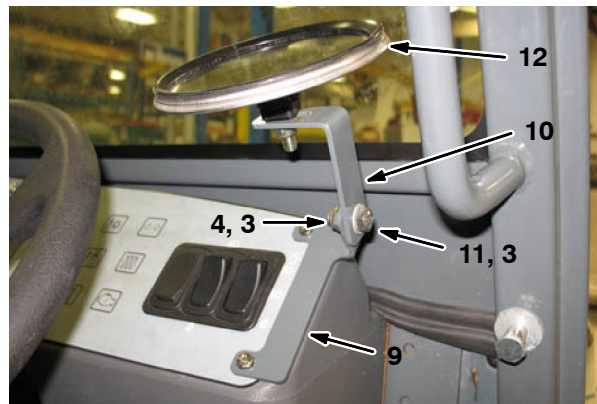

FIG. 10
- Remove the two pan screws from the right side of the control panel and use them to install the lower mirror mounting bracket (9) onto the control panel. Refer to Fig. 10.
- Use a hex screw (11), two flat washers (3), and a hex nut (4) to install the upper mirror mounting bracket (10) onto the lower mirror mounting bracket (9). Refer to Fig. 10.
- Use the hardware included with the mirror (12) to install the mirror onto the upper mirror mounting bracket (10). Refer to Fig. 10.